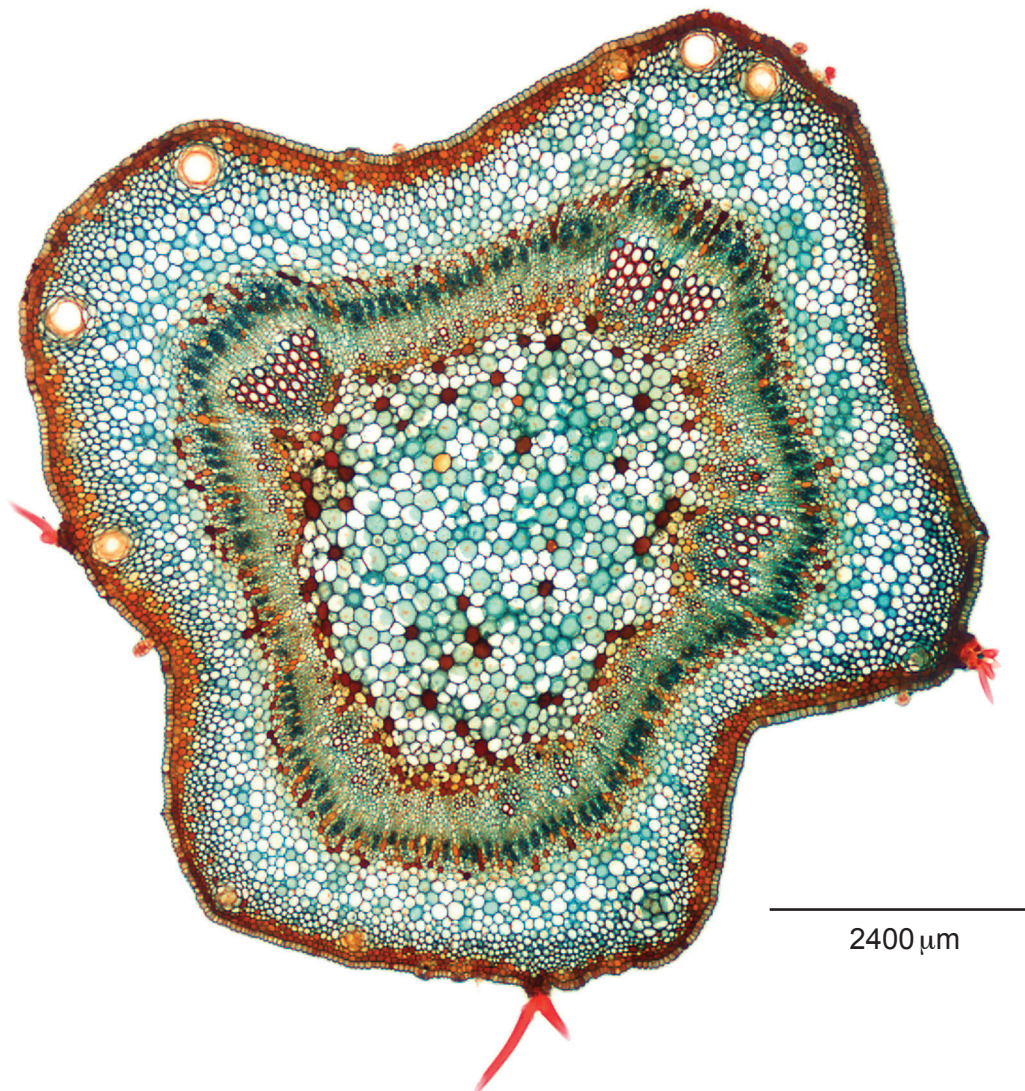

Fig. 2.2
- (b) Fig. 2.2 is a photomicrograph of a stained transverse section through a stem of a different type of plant.
- (i) Use the scale bar on Fig. 2.2 to calculate the magnification of Fig. 2.2.
- (ii) Identify the observable differences between the section on **K1** and the section in Fig. 2.2.